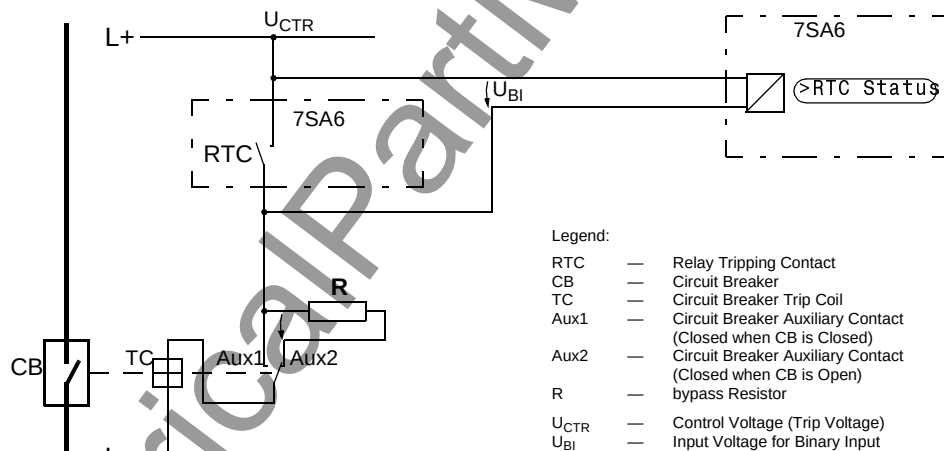

Figure 8-7 Trip circuit supervision with one binary input
If *one* binary input is used, a bypass resistor R must be employed (refer to Figure 8-7). This resistor R is connected in series with the second circuit breaker auxiliary contact (Aux2), to also allow the detection of a trip circuit failure when the circuit breaker auxiliary contact 1 (Aux1) is open, and the command relay contact has reset. The value of this resistor must be such that in the circuit breaker open condition (therefore Aux1 is open and Aux2 is closed) the circuit breaker trip coil (TC) is no longer picked up and binary input (BI1) is still picked up if the command relay contact is open.